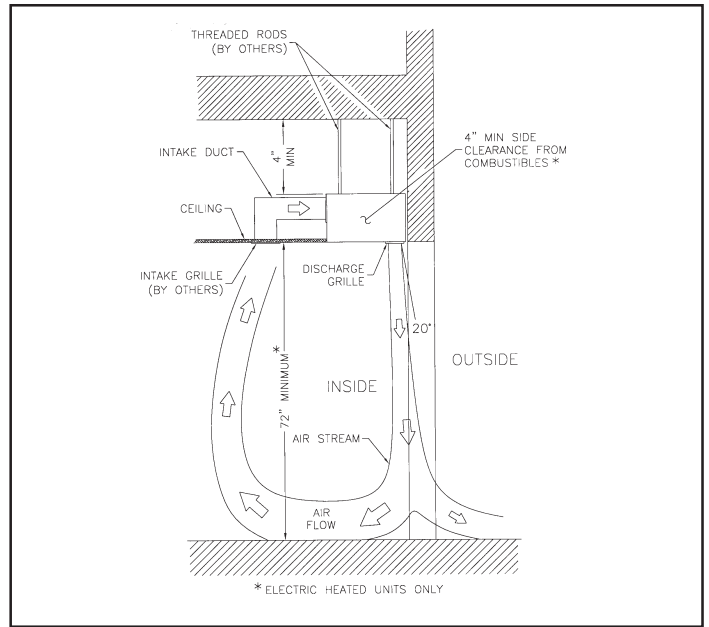

FIGURE 5 - In-Ceiling Suspension Mount Without Adapter
**C. ABOVE CEILING: Figure 5**
Follow instructions 1 & 2 under Item A. See Figure 5. The bottom of the unit can be exposed for easy servicing.